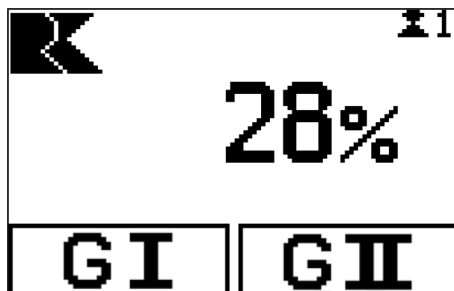

Fig. 48: 'Drive group management' mode
- Drive group management (Fig. 48)
- ⇒ The display screen switches to 'Drive group management' mode (Fig. 48).